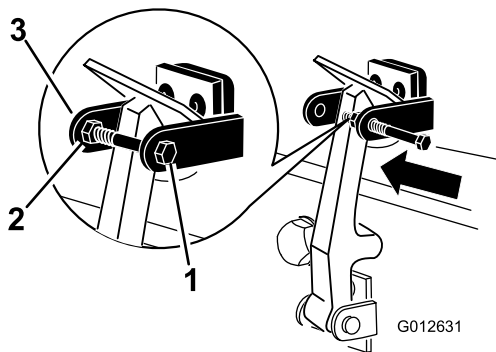

**Figure 8**
6. Hook the latch onto the hood latch bracket (Figure 8).